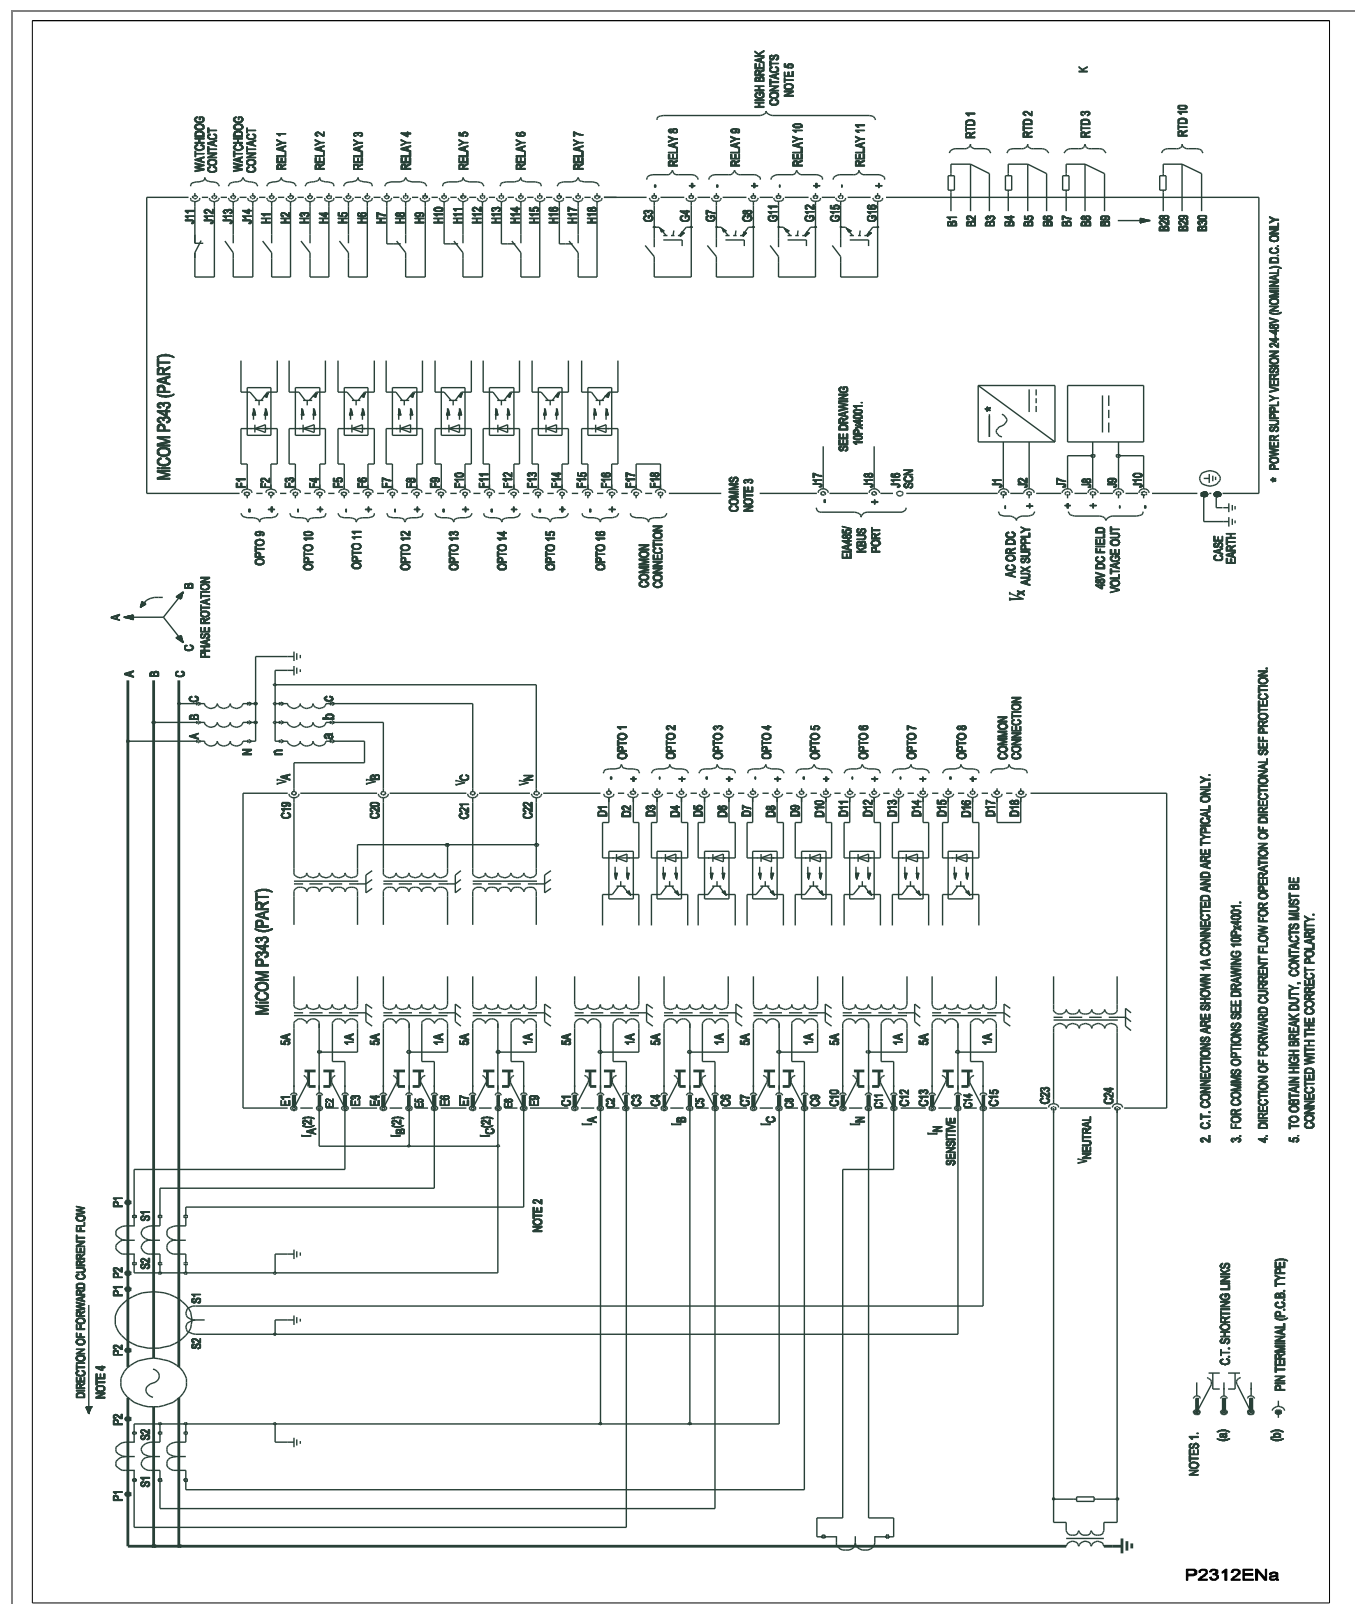

Figure 32 - P343 (60TE) with biased differential (16 I/P & 11 O/P (4HB) & RTD's)
- Figure 32 - P343 (60TE) with biased differential (16 I/P & 11 O/P (4HB) & RTD's)